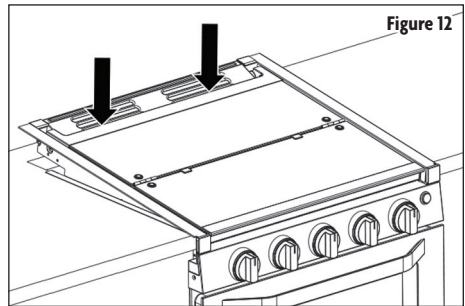

Figure 12
8. Press the backside of the top glass cover until you hear a click noise. The top glass cover is now locked into place. (Figure 12)